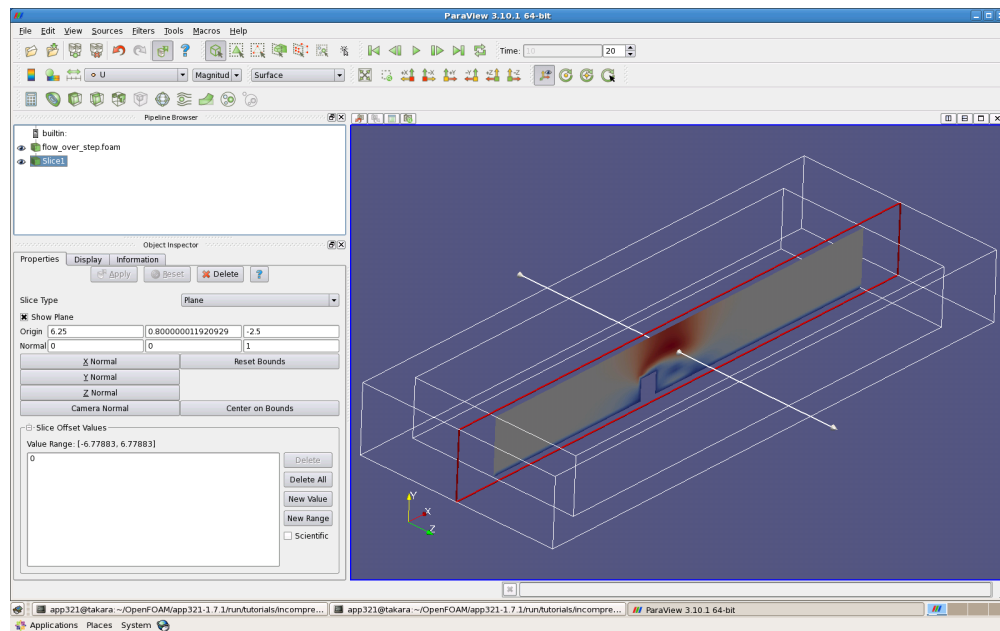

Figure 3: Velocity contour plot on the center slice of the flow over step case in ParaView
- Plot a slice of the result through the center of channel and show the velocity magnitude (as in Figure 3).